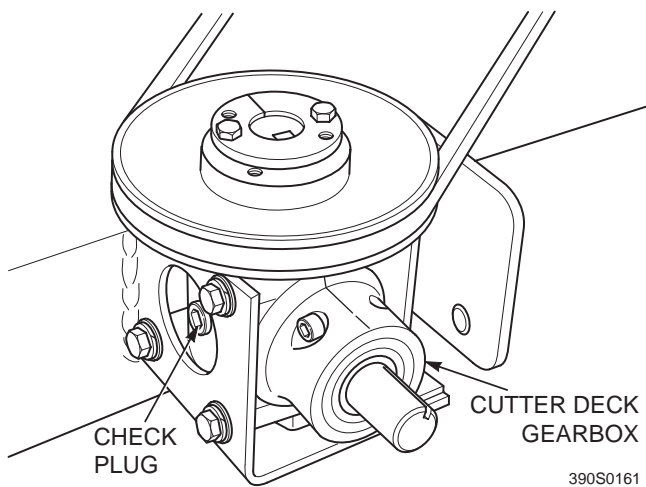

Figure 7-8. Cutter Deck Gearbox
The fluid level in the cutter deck gearbox should be checked after every 100 hours of operation or bi-weekly, whichever occurs first. See Figure 7-8.
2. Clean and remove the check plug from the side of the gearbox. Visually check that the lubricant level is up to the bottom edge of the check plug hole. If lubricant is low, add SAE 80/90 lubricant through the check plug hole in the gearbox until it is level with the bottom of the check plug hole. Install the check plug and tighten securely. See Figure 7-8.